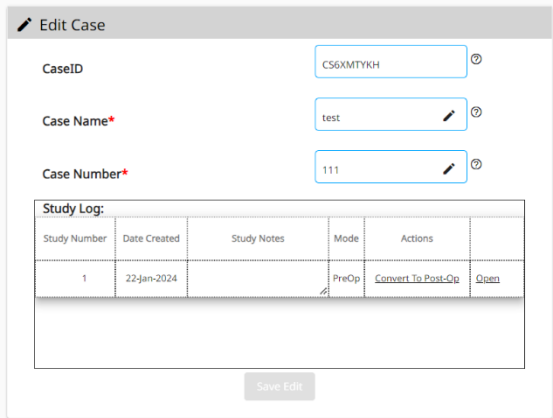

Figure 17
2. Click **“Convert to Post-Op”** in the Actions column. (Figure 17)